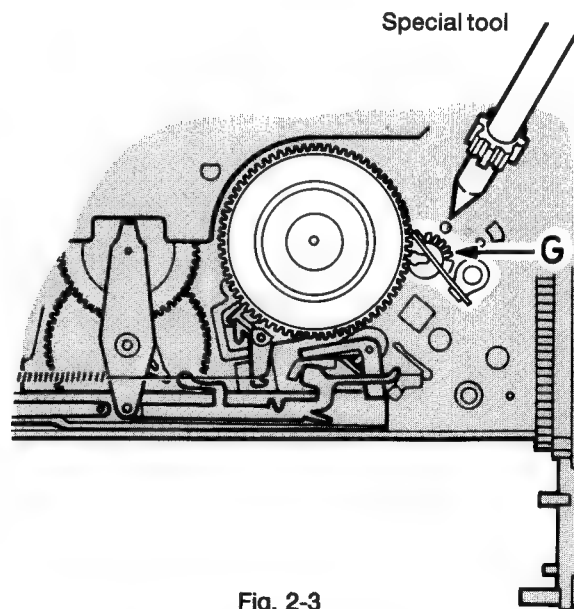

Fig. 2-3
2.2 Measuring the take-up spool friction pos. 207
- First carry out preparation items 1,2 and 3.
- To adjust this take-up reel friction, rotate item G using special tool turning the tool clockwise increasing the friction (Fig. 2-3).
2.3 Checking the slipping clutch pos. 214
- Carry out preparation items 1 and 2.
- Place the machine in the STOP-threaded position by pressing the PLAY button whilst covering the light guide pos. 243 with the finger tips until threading is complete, and the STOP button, also depress switch COD3.